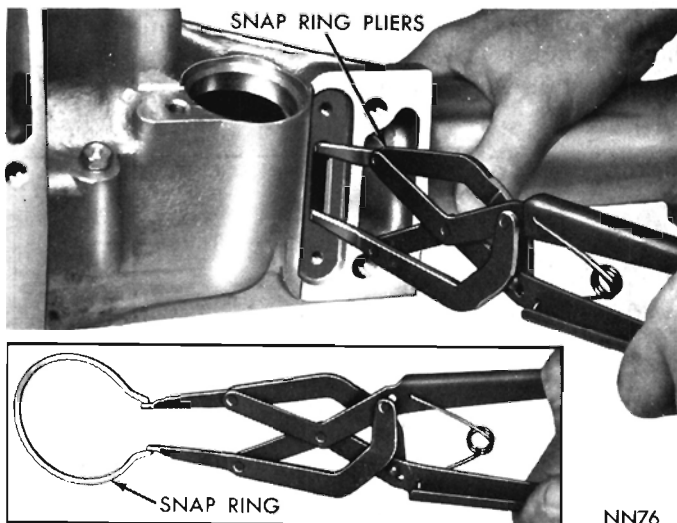

Fig. 31—Removing or Installing Extension Housing
(5) Remove two screws, plate and gasket from bottom of extension housing mounting pad. Spread large snap ring from output shaft bearing with Tool C-3301 (Fig. 31). With snap ring spread as far as possible, carefully tap extension housing off the output shaft bearing. Carefully pull extension housing rearward, to remove parking lock control rod knob past the parking sprag, then remove the housing.
(1) Place a new extension housing gasket on the transmission case. Position output shaft bearing retaining snap ring in extension housing. Slide extension housing on output shaft guiding the parking lock control rod knob past the parking sprag. While spreading large snap ring in housing with Tool C-3301A (Fig. 31), carefully tap housing into place, then release the snap ring. Make sure snap ring is fully seated in bearing outer race ring groove.
(2) Install and tighten extension housing bolts to 24 foot-pounds.
(3) Install gasket, plate and two screws on bottom of the extension housing mounting pad.
(4) Install center crossmember and rear mount assembly, tighten retaining bolts to 90 foot-pounds. Lower transmission, install extension housing to support bolts and tighten to 40 foot-pounds.